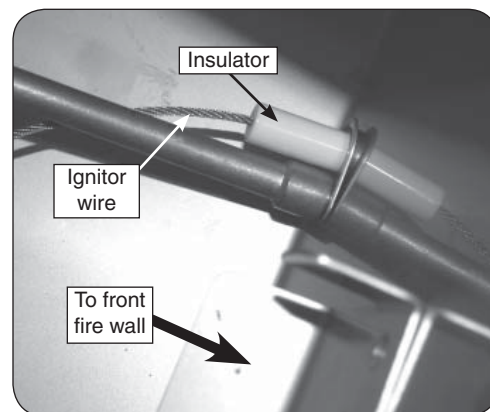

Fig. 3-2 Screw in the new wire insulator
2. Attach the insulated portion of the ignitor wire assembly to the inside of the fire wall as shown using the self-tapping sheet-metal screw through the bracket hole and into the hole drilled in step 1 (see Fig. 3-2).